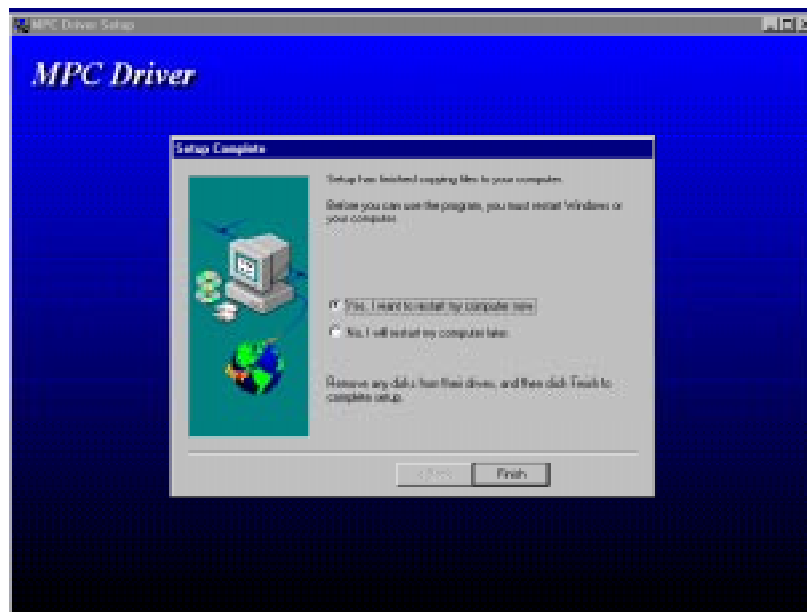

Figure 5-6. Setup Complete
- The Setup Complete dialog box (Figure 5-6) allows you to reboot your server immediately or postpone reboot until later. You must reboot the server before attempting to use the MPC+ driver. Click **F**inish to complete the install.